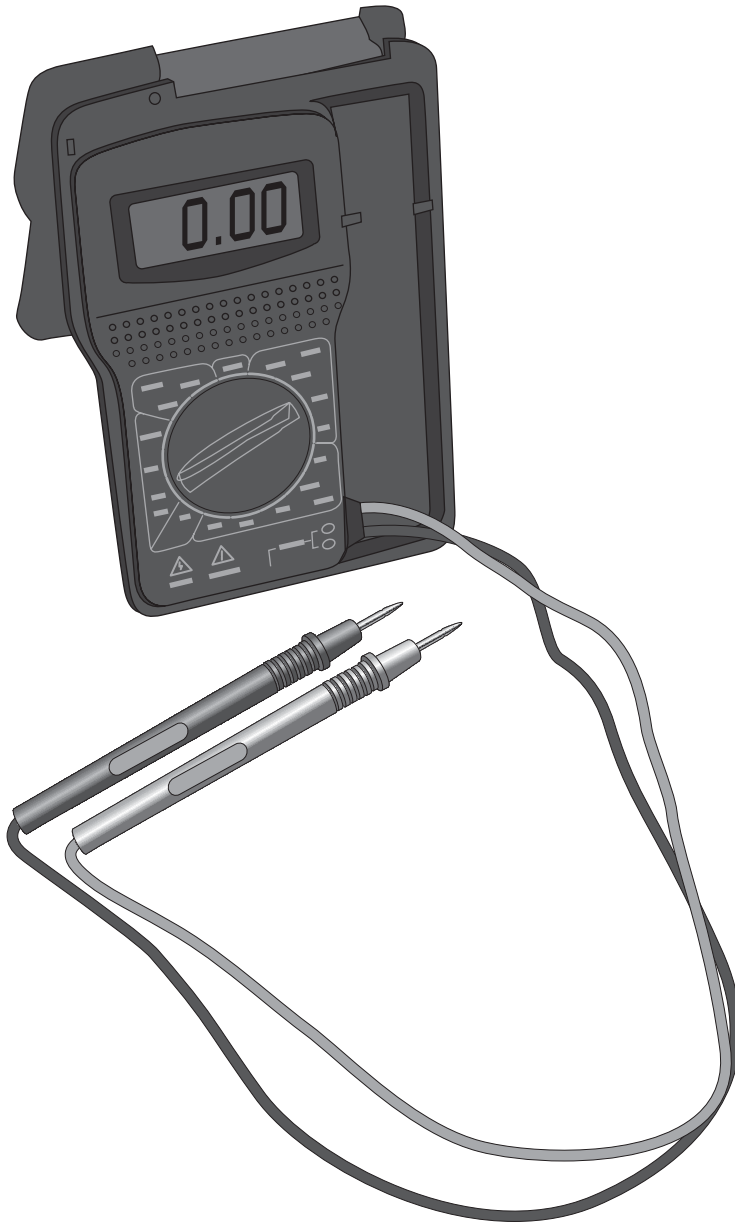

Figure 2-3: Measuring voltage with the voltmeter function of a multimeter.
- ◆ You can find out how much voltage exists between two points by using a device known as a *voltmeter*, which has two wire *test leads* that you can touch to different points in a circuit to measure the voltage between those points. Figure 2-3 shows a typical voltmeter. (Actually, the meter shown in the figure is a *multimeter*, which simply means that it can measure things other than voltage. In the figure, the multimeter is functioning as a voltmeter. For more information about using a voltmeter, refer to Chapter 8 of this minibook.)